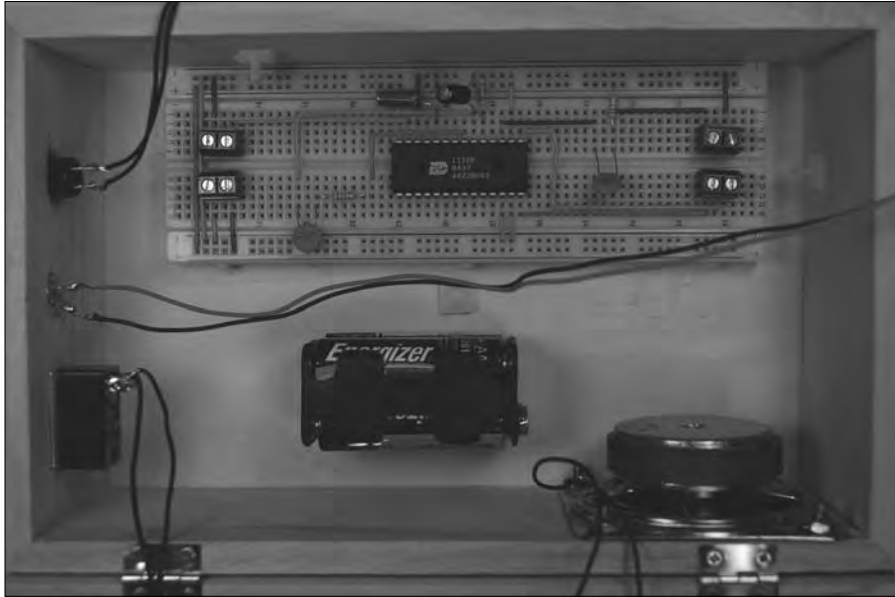

Figure 14-13:
12. Attach Velcro to the battery pack, breadboard, and box. Attach the battery pack and breadboard to the box, as shown in Figure 14-13.